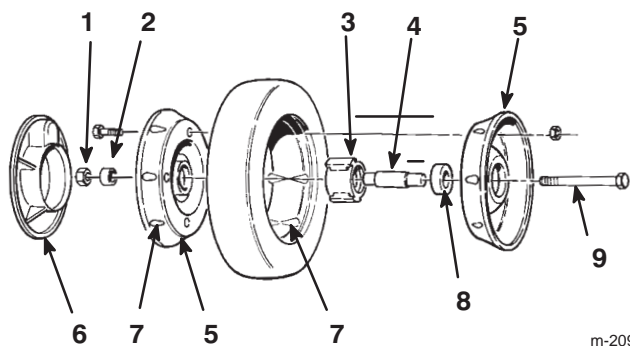

Figure 39
3. Remove the bolt, the wheel spacer, and the locknut mounting the wheel to the pivot arm (Fig. 39).
4. Separate the wheel halves from the tire by removing 4 bolts and 4 locknuts (Fig. 39).
Note: If you remove the bearings from the bearing/hub assembly, remove them by pressing on the bearing spacer (Fig. 39).
1. Position the tire onto 1 wheel half, aligning the lugs on each (Fig. 39).
2. Place the bearing/hub assembly into the center hole of the wheel half. Ensure that the legs of the hub are positioned over the flange of the hole (Fig. 39).
3. Place the other wheel half onto the bearing/hub assembly, aligning the wheel and the tire lugs and the mounting holes (Fig. 39).
4. Using 2 fully threaded bolts (1/4-20 x 1.50 in.) and non-locking nuts, loosely secure the wheel halves together. Mount the bolts in the opposing holes (Fig. 39).
5. Check the alignment of all parts and tighten the bolts, alternating from side to side for a uniform fit, until the wheel halves are drawn together (Fig. 39).
6. Install the 2 bolts and 2 locknuts previously removed in the remaining holes in the wheel halves and tighten. Remove the 2 long bolts and replace them with 2 bolts and 2 locknuts (Fig. 39).
7. Install the wheel to the pivot arm with the bolts, a spacer, and a locknut. Ensure that the spacer is positioned between the wheel hub and the pivot arm (Fig. 39).